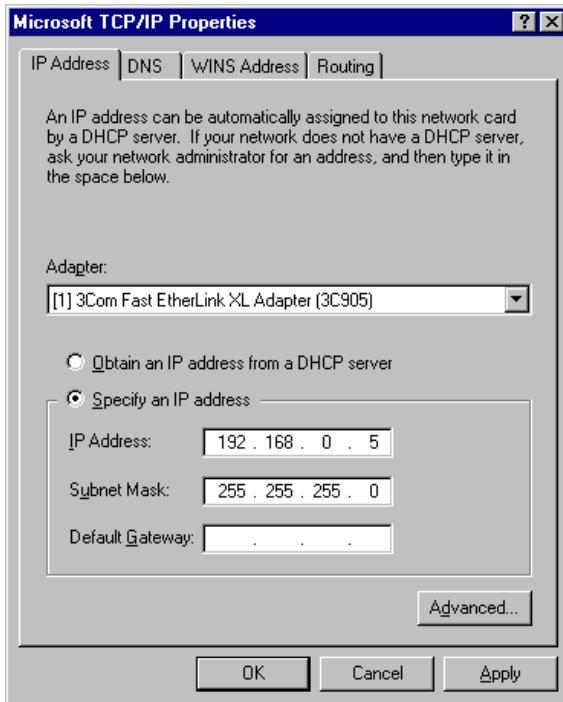

Figure 3
- Highlight the **TCP/IP** protocol for your network card (see Figure 3)